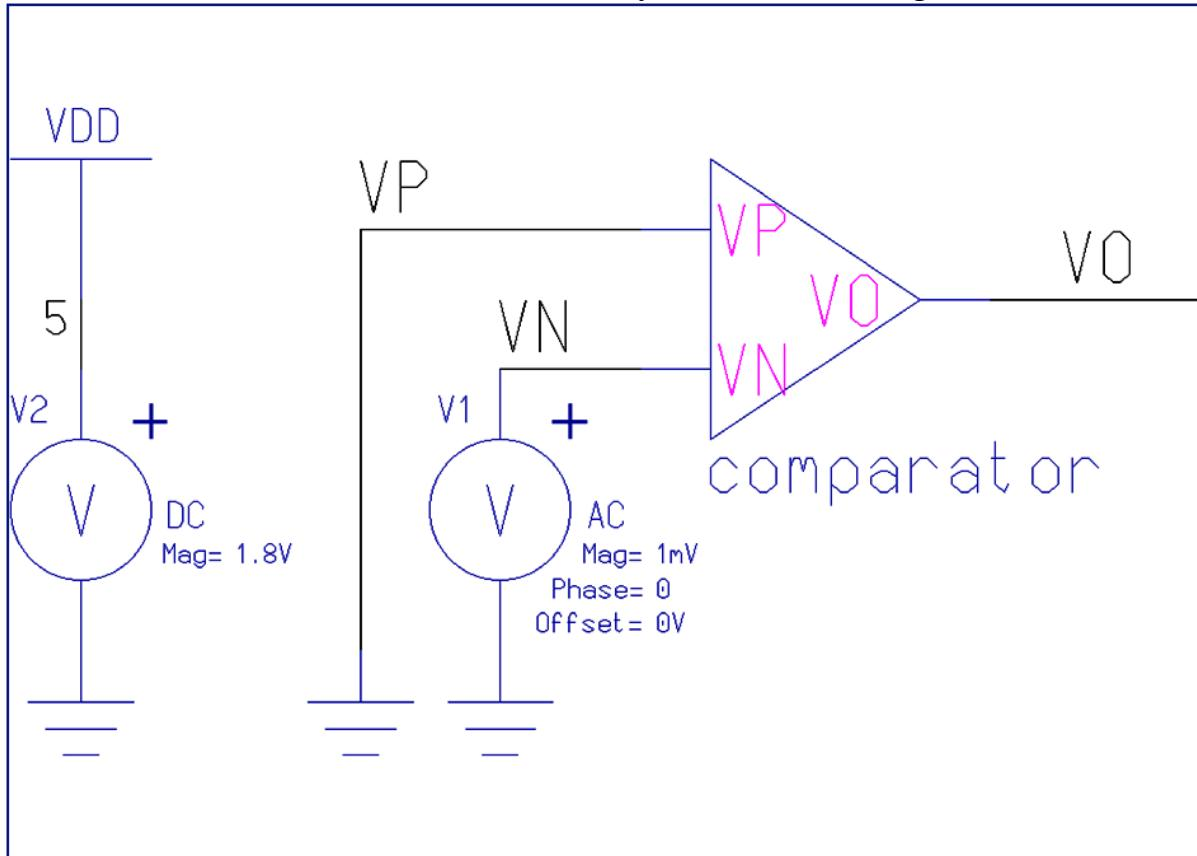

Figure 1: Comparator Testbench
1. Up to now we have finished DC analysis. Now let's move on to AC analysis. The testbench circuit structure for AC analysis is shown in Figure 1 below: